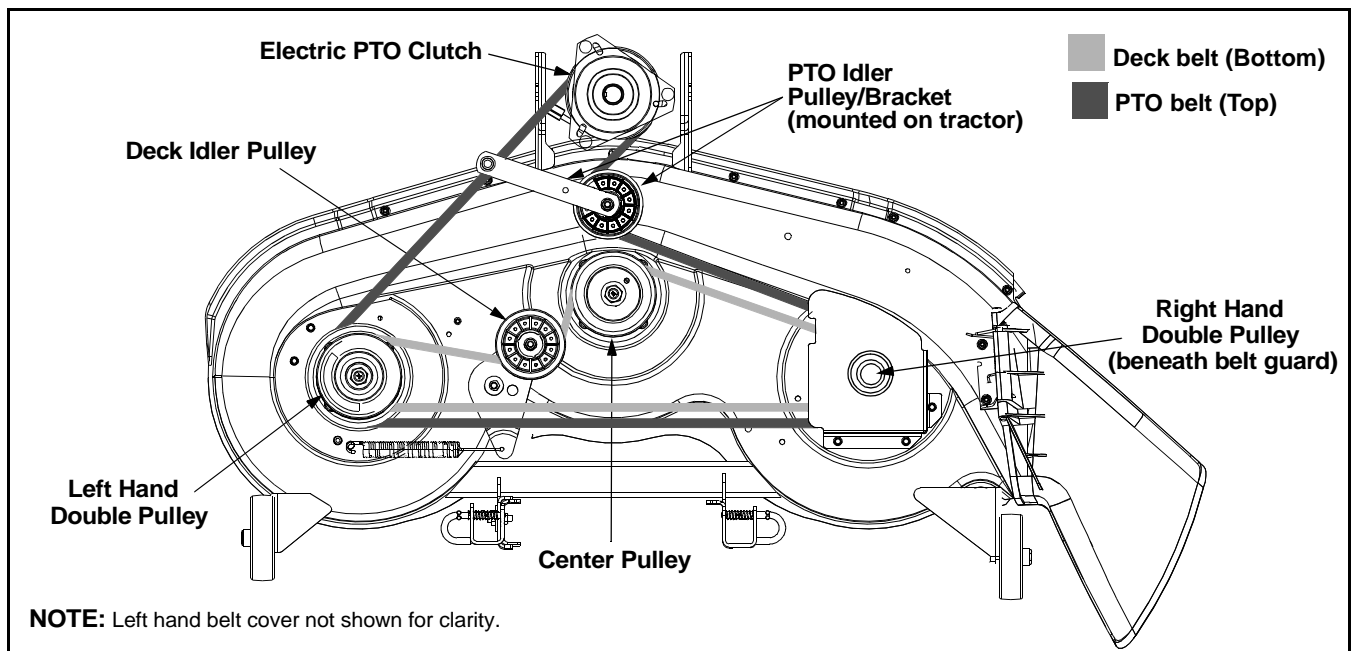

Figure 27
- Working from the right side of the tractor, just behind the front wheel, pull the PTO idler pulley away from the backside of the PTO belt and slide the belt off the idler pulley. **Carefully** release the spring tension from the idler pulley/bracket. Refer to Figure 27.
- Remove the PTO belt from around the tractor's electric PTO clutch. Refer to Figure 27.
- Remove the belt guards from above the two outer deck spindles by removing the self-tapping screws that fasten them to the deck. See Figure 27.
- Route the new belt as shown in or Figure 27.
- Lift the deck belt up above the idler pulley and carefully release the spring tension from the idler pulley/bracket. Refer to Figure 27.
- Pull the deck idler pulley toward the left side of the deck and position it against the backside of the belt as shown in Figure 27.